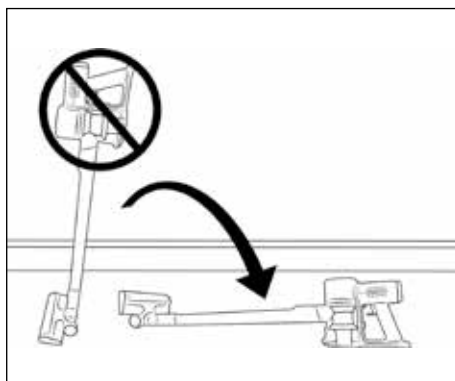

Fig. 8
- ▶ Do not place the vacuum cleaner upright when you want to put it down or take it out of your hand in the meantime. To do this, place the vacuum cleaner in the wall bracket **15** or lay it on the floor (see Fig. 8 and 9). The vacuum cleaner may otherwise tip over and be damaged and possibly damage other objects when tipping over.